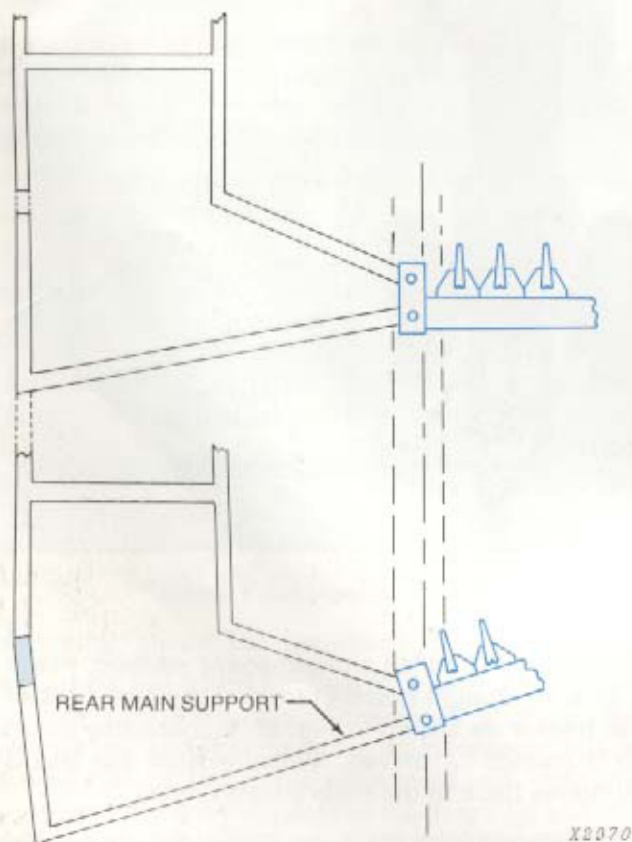

Fig. 28 — Lengthening Rear Support
2. Lengthen the rear main cutter bar support (Fig. 28).